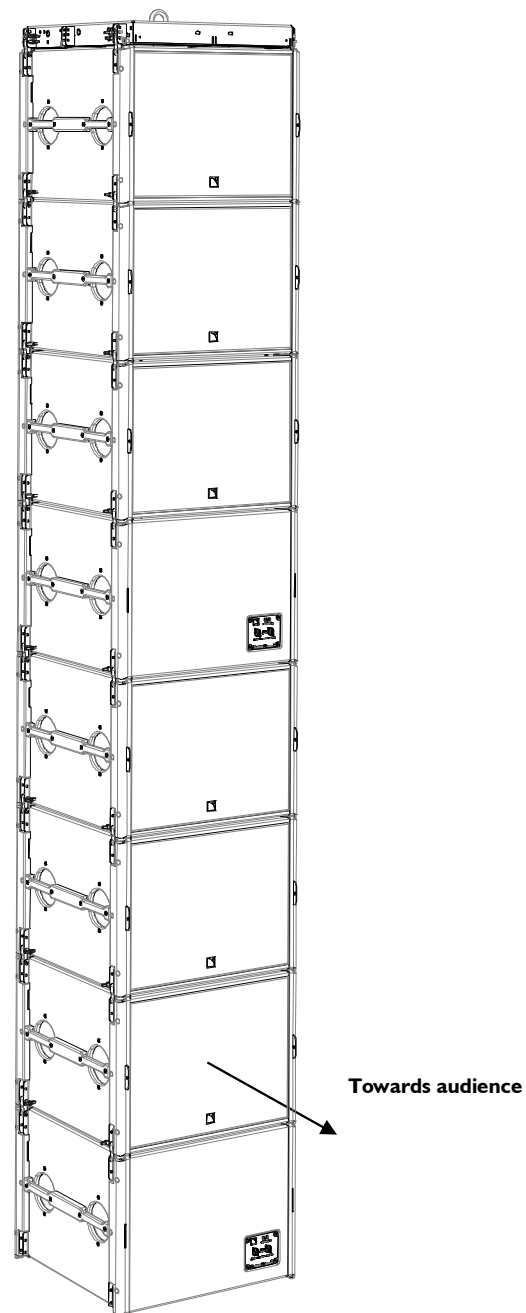

Figure 31: Example of SB18 standalone array (rigging option 0 [9.2.1])
10. If the array is intended to be a SB18 standalone array, apply the following last procedure (see also Figure 31):